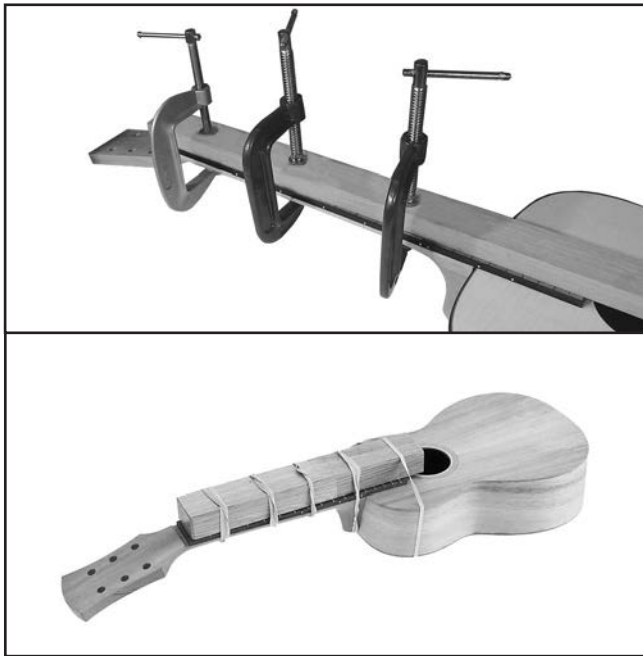

Figure 11. Fretboard secured to neck.
6. Secure fretboard in place with C-clamps or rubber bands and wood stock, as shown in **Figure 11**. Use wedges if necessary to ensure a tight fit. Wipe off any glue overspill with a damp, lint-free cloth.